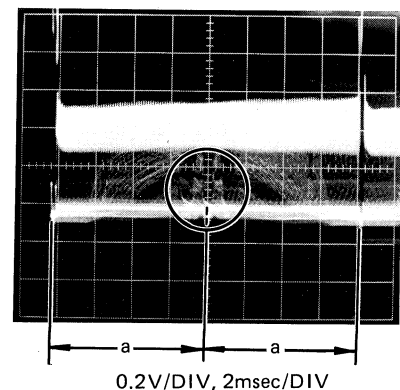

Fig. 4-2-20
- While observing the waveform, adjust V.CENT VR6 so that the marker which shows the vertical centre of pick-up tube positions at the centre of video signal waveform in vertical rate. (Fig. 4-2-20)